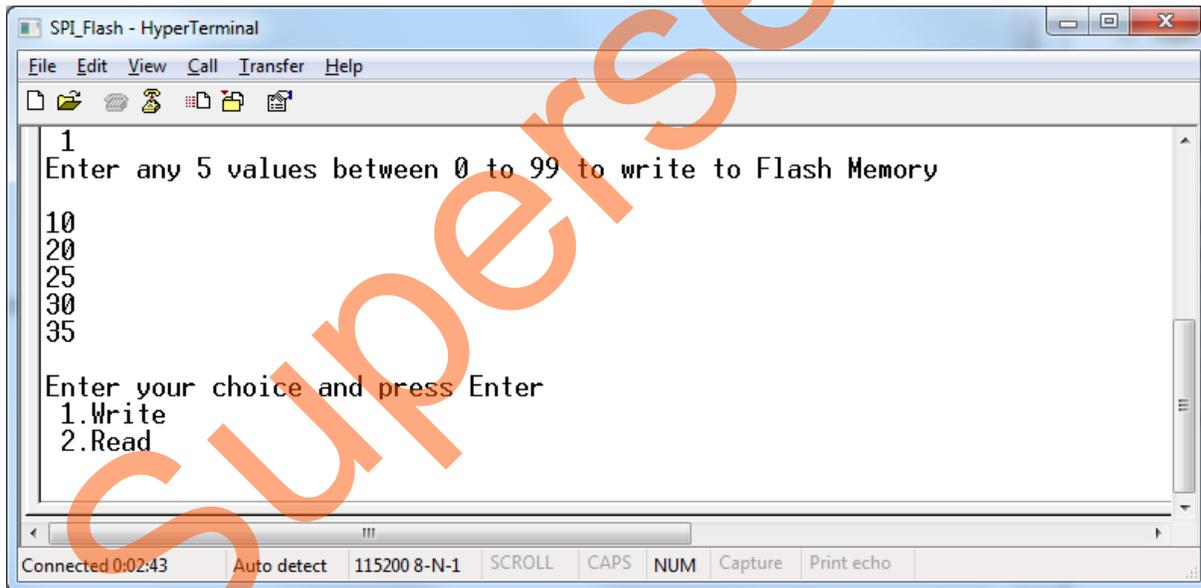

Figure 44 • HyperTerminal Window - Option 1
5. Select option 1 and enter values to write to the SPI Flash Memory, as shown in Figure 44.